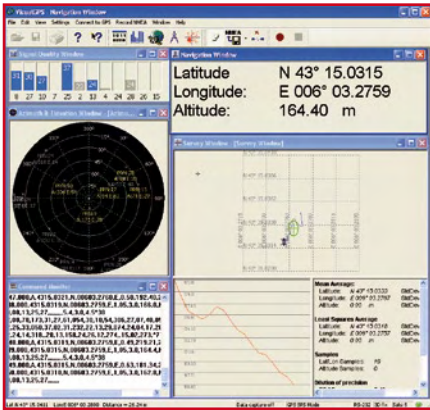

Figure 3. VisualGPS offers a very comprehensive display.
- **VisualGPS** [3], one of the most comprehensive, offering (Figure 3) both a decoded display of the GPS data and the contents of its output frames, with the added possibility of saving them to a file. Take care, though, not to get muddled up: VisualGPS is free, while VisualGPSXP is paid for.